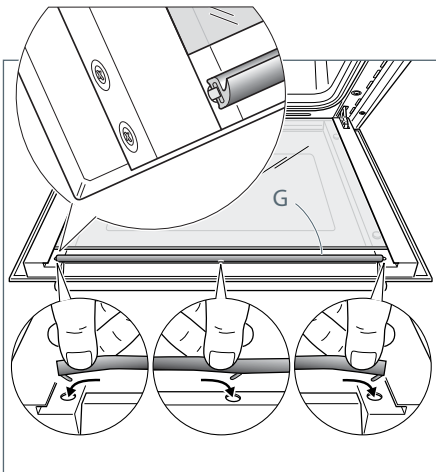

Fig.62e
- Replace the seal "G" by hooking in the three fixing hooks. Make sure that you put it in the correct way (Fig. 62e).